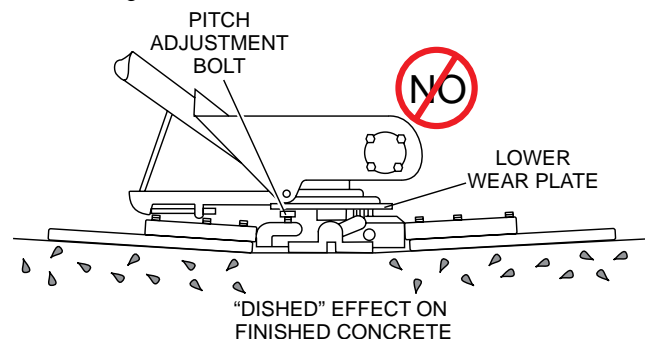

Figure 54. Incorrect Spider Plate Alignment
6. Figure 54 illustrates, "incorrect alignment", worn spider bushings or bent trowel arms.